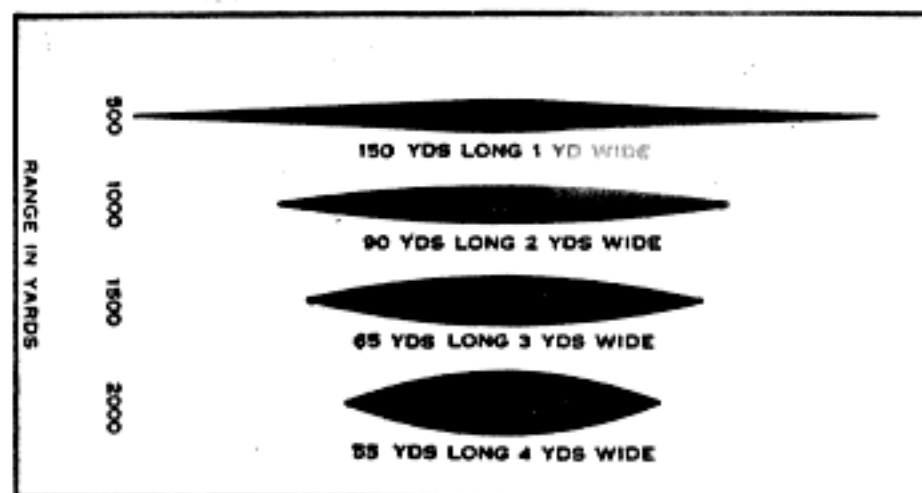

Figure 6. Approximate dimensions of beaten zones on level ground for M2 ball ammunition.
b. *Beaten Zones.* The sizes of the beaten zones of the Browning machinegun, caliber .30 (fig. 6) vary slightly from those of the M60 machinegun.
(1) When the weapon is employed in the